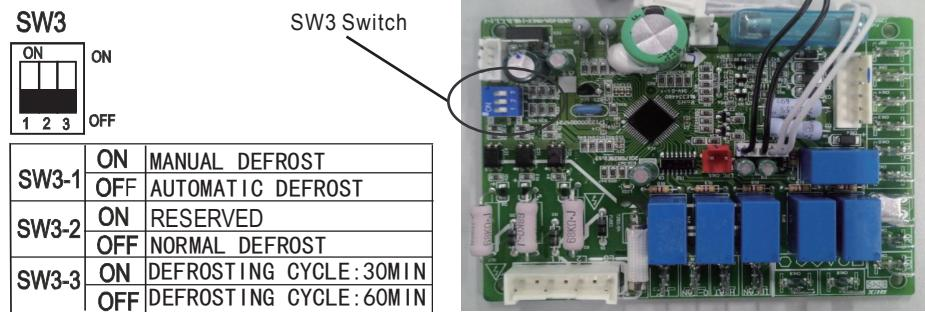

Fig.7 SW3 Switch Location in the PCB Board(For reference only)
To manually cycle the defrost mode, set switch SW3-1 to the "ON" position (See Fig 7). The system will engage a defrost cycle, and automatically exit defrost mode once the **Shut-down conditions of defrost mode** described below are met.
When SW3-3 switch is set to "ON"(See Fig 7), the system will perform a defrost cycle in any of the following conditions:
- When SW3-3 switch is set to "OFF"(See in Fig 7), the system will perform a defrost cycle in any of the following conditions: